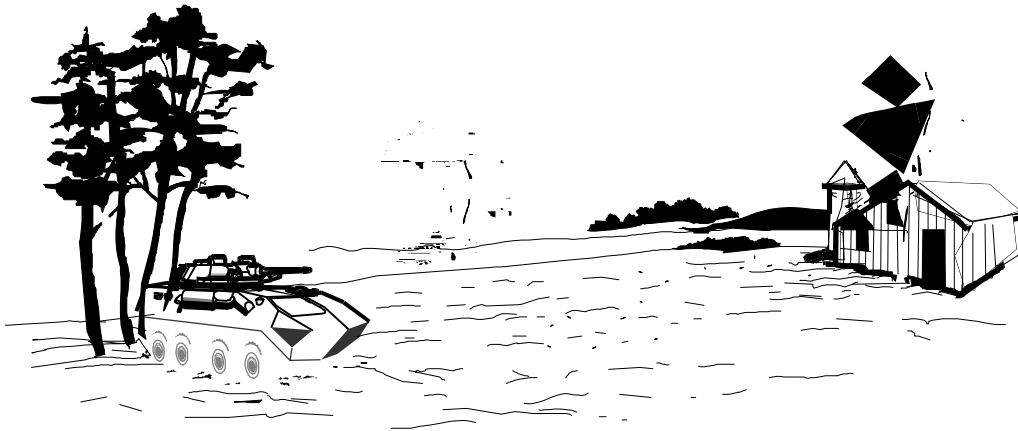

Figure 3-13. Designating Targets.
(2) Designating Targets. Machine gun fire can be used by section and platoon leaders to designate targets for tank, artillery, close air support, or unit organic weapons. Machine gun tracers are effective as a marking round at ranges of 900 meters or less, and main gun HEI-T fire is effective at ranges beyond this. (See fig. 3-13.)